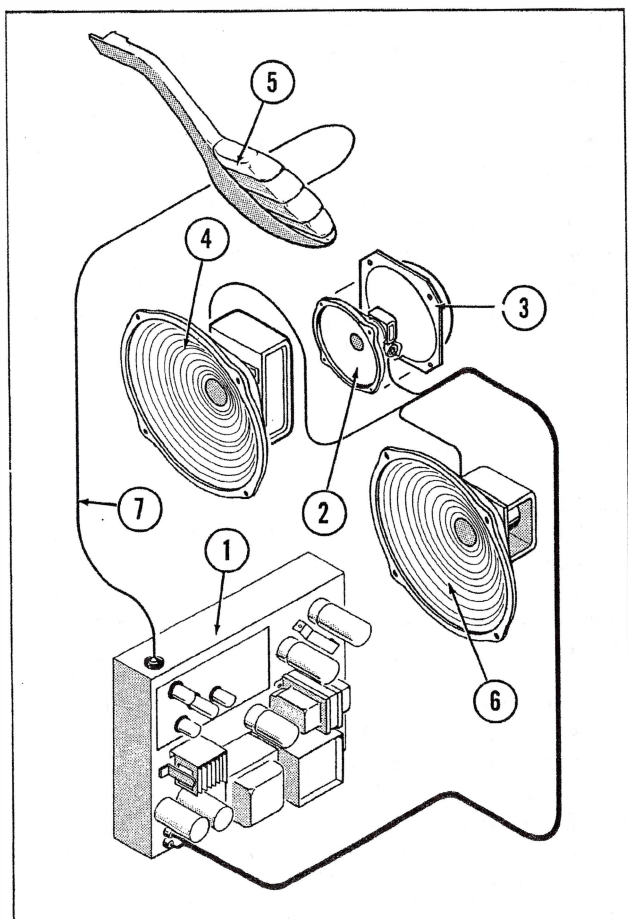

Fig. 89. SOUND SYSTEM - MONOPHONIC
(1) The 2400 series monophonic phonograph sound system (Fig. 89) consists of a Model 536 single channel amplifier (Item 1) with built in "automatic level control", low inertia tone arm (Item 5) with Zenith "Cobra" pick-up, and a high fidelity speaker and cross-over network (Items 2, 4 and 6). The speaker compliment consists of one 12" p.m. heavy duty, one 12" p.m. mid-range and one 7" p.m. high frequency.